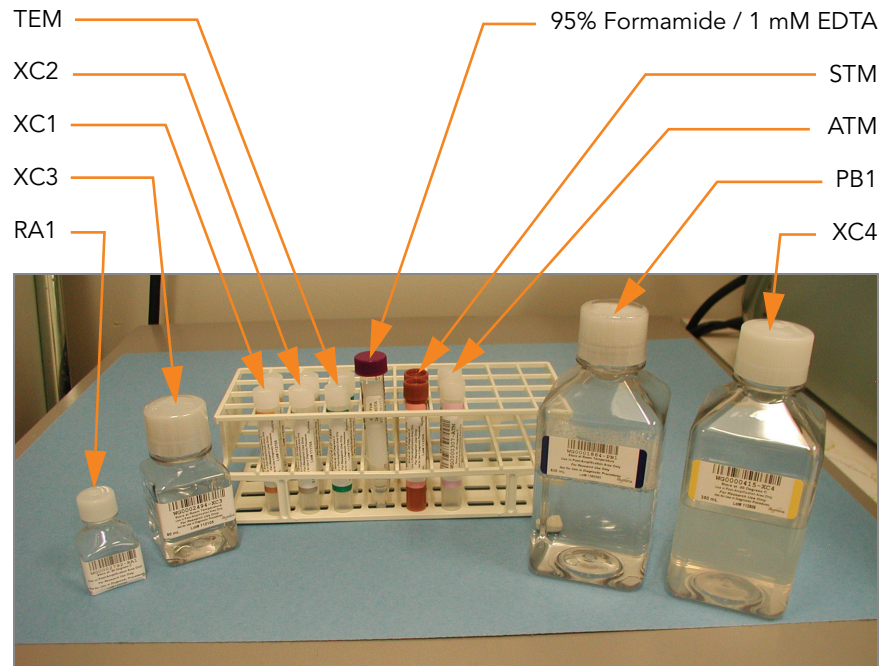

Figure 62 XStain HD BeadChip Reagent Tubes and Bottles
- ▶ Place all reagent tubes in a rack in the order in which they will be used (Figure 62). If frozen, allow them to thaw to room temperature and centrifuge to 3000 xg for 3 minutes.